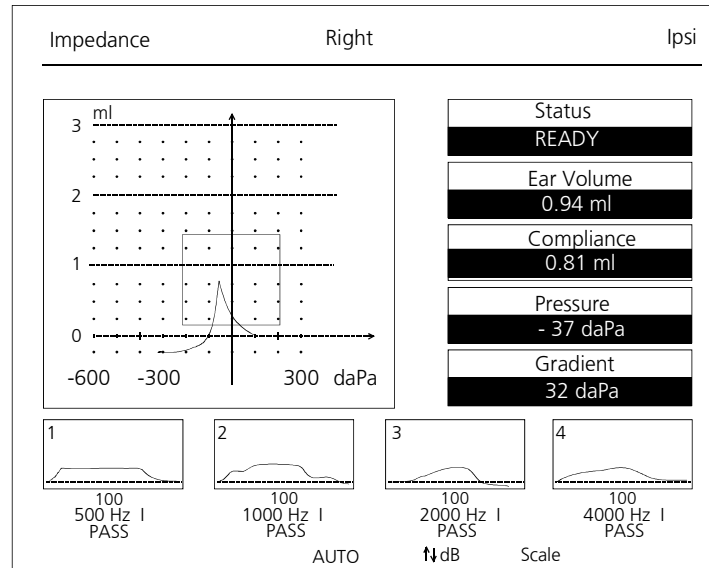

Figure 23 Example of a normal Tympanogram with ipsilateral reflex results
Carry out the measurement as described in chapter 4.4 "Recording the Tympanogram". The Stapedius reflex is measured after the measurement of the Tympanogram. During the measurement of the Stapedius reflex the change of the compliance is represented in real time on the LCD display ⑤. When the test is finished the curves for the changes of compliance for 500 Hz, 1000 Hz, 2000 Hz and 4000 Hz are shown in four separate graphs at the bottom of the measurement screen (see Figure 23). Below each curve you see the test level where a Stapedius reflex was registered automatically. This is indicated by a "PASS" below the frequency. If no reflex was detected, a "FAIL" is reported and the maximum level is shown.